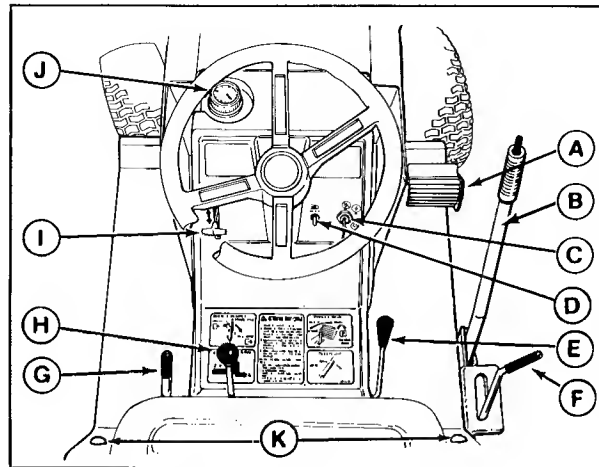

Figure 8. Tractor & Mower Controls
The lift chain (A, figure 1) should be connected to the rear hole in lift arm (B) unless optional large lift lever (B, figure 8) is used to raise mower. With large lift lever, connect chain in forward hole.
Refer to figure 8 for an explanation of tractor and mower controls.